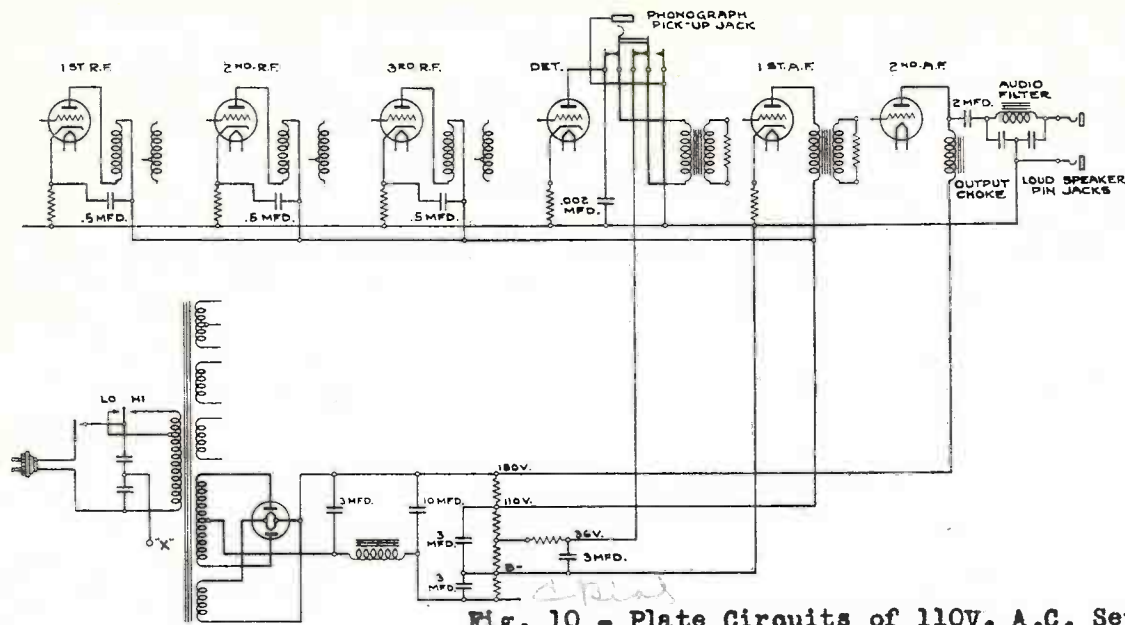

Fig. 10 - Plate Circuits of 110V. A.C. Set.
(19) Plate Supply. The plate supply of A.C. sets is obtained by the same basic method as in battery sets employing "B" eliminators; the main difference being that, in the A.C. set, the "eliminator" is usually an integral part of the set and cannot as easily be isolated, removed and repaired.
(20) A.C. Power Supply. A typical example of the power supply system for an A.C. set is illustrated in the schematic diagram of Fig. 10, which shows the power supply of the Stromberg-Carlson "Nos. 635 and 636" receivers. If the initial tests reveal a failure in the power supply, as indicated by absence of plate voltage, the trouble may be caused by a defective rectifier tube, burnt-out filter choke, punctured filter condensers, or open voltage divider. This latter device, indicated as a group of resistances at the extreme lower right of the diagram (Fig. 10) may cause excessive plate voltage on some of the tubes, should the lower or negative end of it be open. This is a frequent occurrence and, if the resistance values and current carrying capacities of the voltage divider are known (as indicated on the diagram of the specific set) a new resistor of the same value should be inserted. Further reference to power supply equipment will be found in Chapter III.
(21) 25- and 60-Cycle Sets. It is well to check the frequency of the power supply, especially when making installations, and make sure that the set is designed to operate on the frequency available. While 60-cycle supply is the most common, in some localities (especially near Buffalo, N.Y., and in many parts of Canada) 25-cycle and sometimes 40-cycle current is in general use. It is ruinous to attempt to operate a 60-cycle set on a 25- or 40-cycle line, but a 25- or 40-cycle set may be safely operated on a 60-cycle line. The 25-cycle set may be operated on a 40-cycle line, but not vice versa.